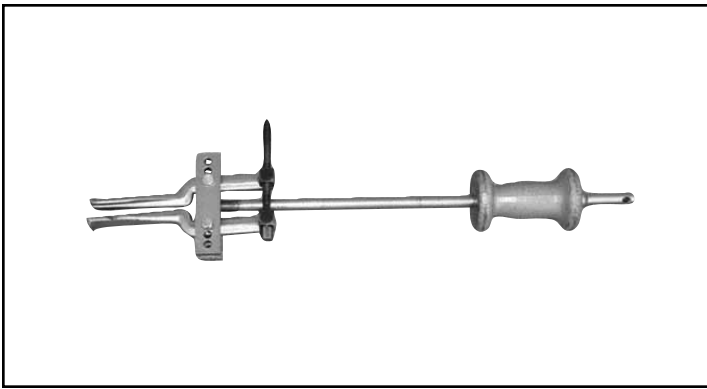

FIGURE 1
- A)** Remove all shaft components from the shaft, (21), (i.e., keys, wire rings, nuts). To aid in reassembly of the motor, make a “V” shaped set of lines from the endcover to the housing using either paint or a marker. With the shaft facing down, secure the motor in a vise by clamping onto the housing, (8). Loosen and remove the seven bolts, (20), holding the motor assembly together. Remove the endcover, (18), from the motor.
- B)** Remove the balance plate, (16), rotor set, (15), and the manifold, (14), from the motor. Remove all seals from the components and discard. (Caution - when removing the balance plate, do not allow the three check balls, (17), to fall out from the plate.) (Caution - do not allow the rolls to drop out from the rotor set assembly when removing the assembly from the motor.) Remove the manifold from the motor and lay aside. Remove drive link, (13), from the motor and lay aside. Remove the thrust bearing, (12), from the housing and lay aside. From the front of the housing, gently tap the shaft, (21), upward and remove through the rear of the housing.
- C)** Using a slide and hammer type bearing puller, (see Figure 1), remove the rear housing bearing, (11), from the housing. Remove the thrust bearing, (10), and lay aside, remove the thrust washer, (9), and lay aside. Remove the shaft seal, (4), and discard, remove the back-up seal, (3), and discard, remove the metal shim, (2), and discard.